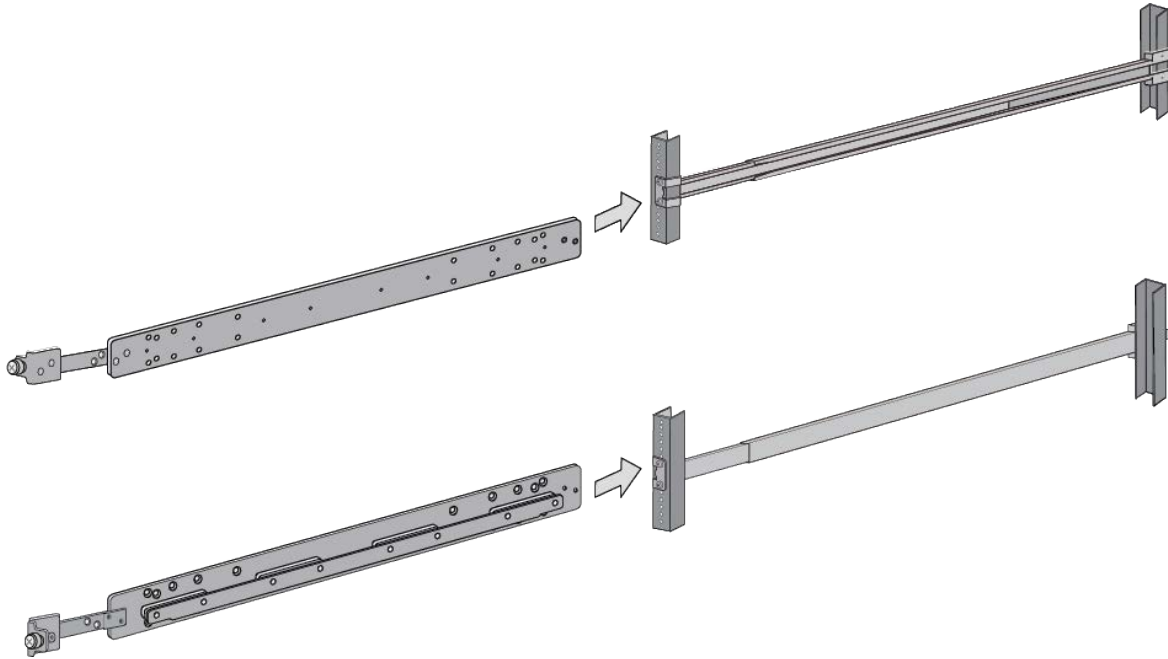

Figure 114. Testing the Inner Rails with the Extension Brackets
4. To test the lengths of the extension brackets, slide the inner rails into the outer rails in the equipment rack. Refer to Figure 114.